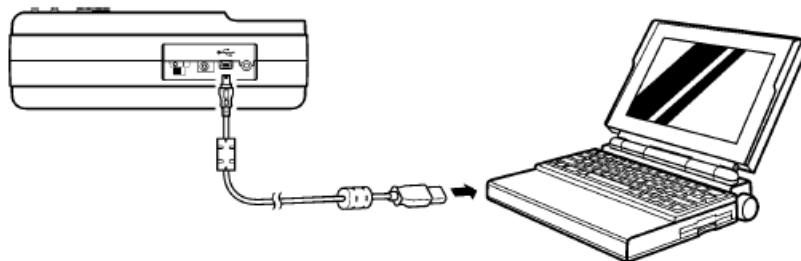

Figure 2: Cable connection for Communication
Before connecting the USB cable, ensure that the USB driver from the accompanying CD is installed on the personal computer. Connect the USB cable as shown in Figure 2 to establish communication between the PC and SS7012.
- After installing the USB driver, connect the personal computer and SS7012 as shown in Figure 2. The virtual RS-232 COM port will be automatically assigned to the USB port.